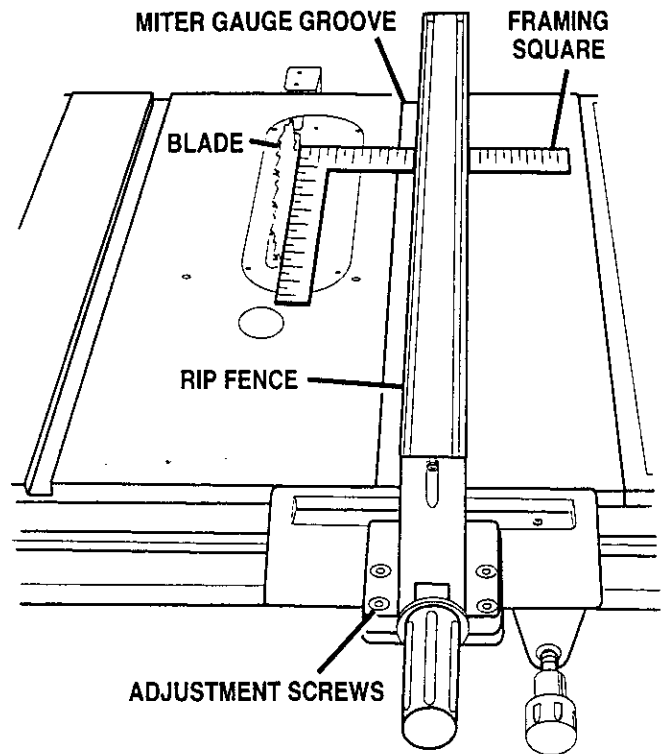

Fig. 15
- Move the square to the back and measure the length from other end of the fence. See *Figure 15*.